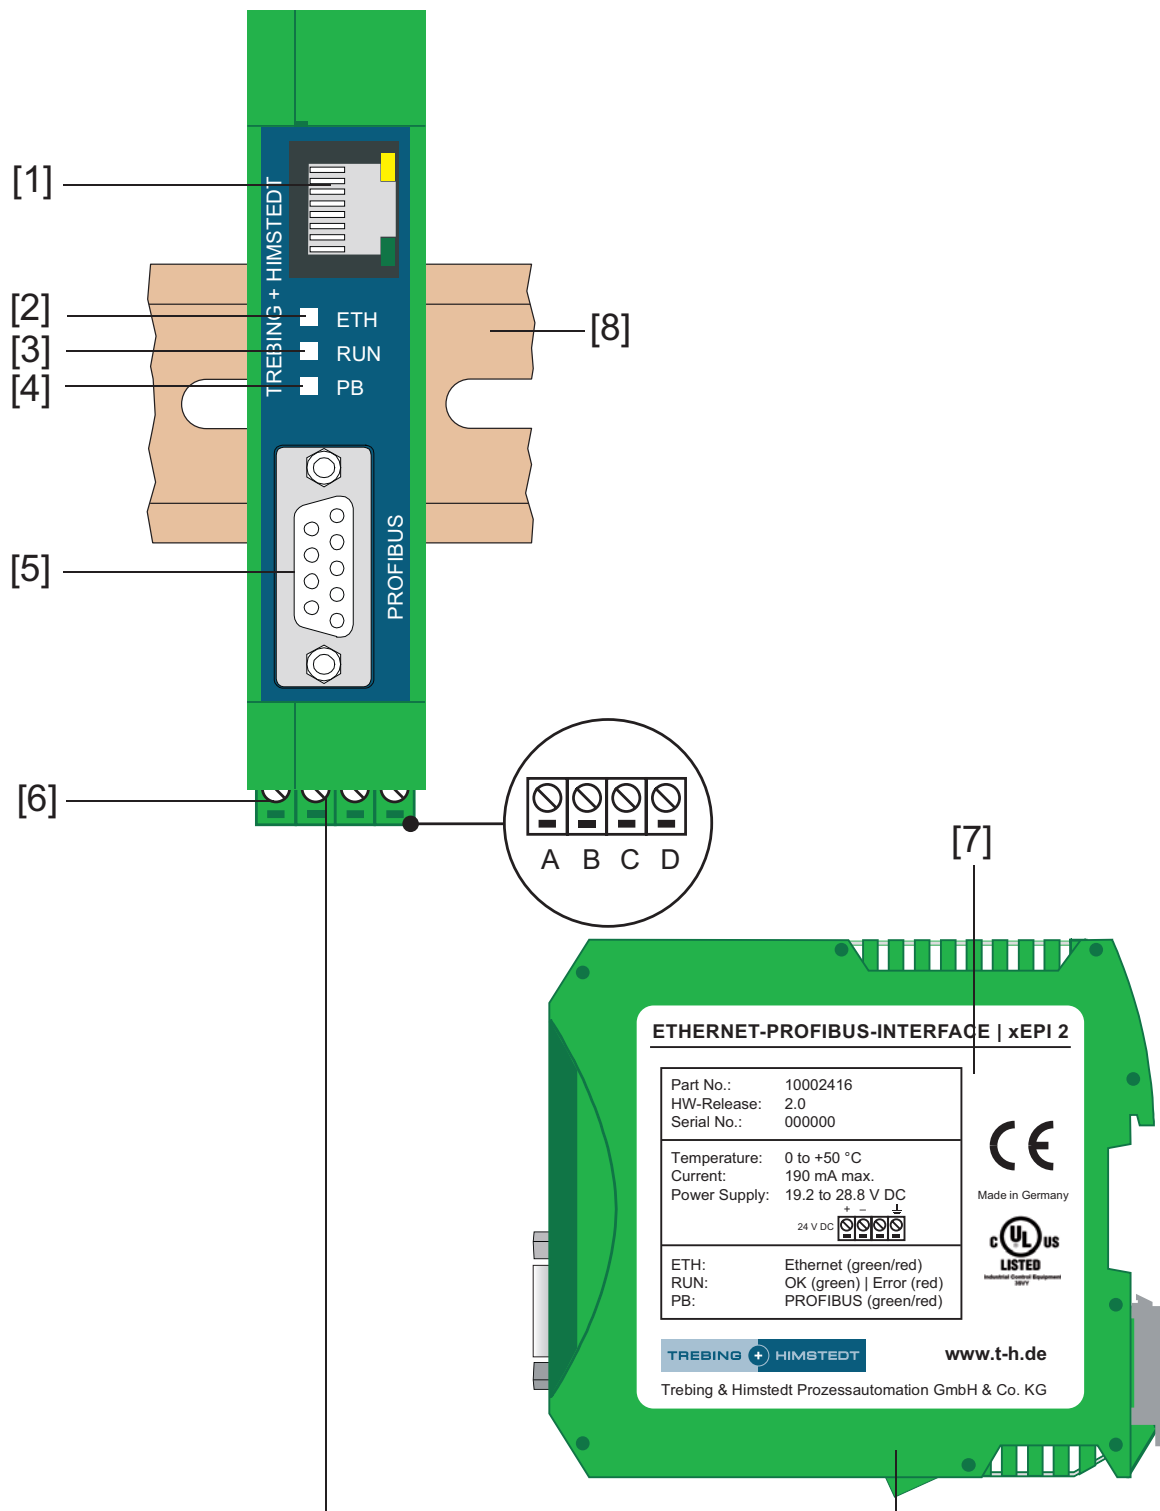

Fig. 1: xEPI 2 (front and side view)
(see figure 1)
- Insert the patch cable plug (RJ-45, not included in the scope of delivery) into the Ethernet socket (see figure 1 no. [1]) on the xEPI 2 until the plug locks into place.